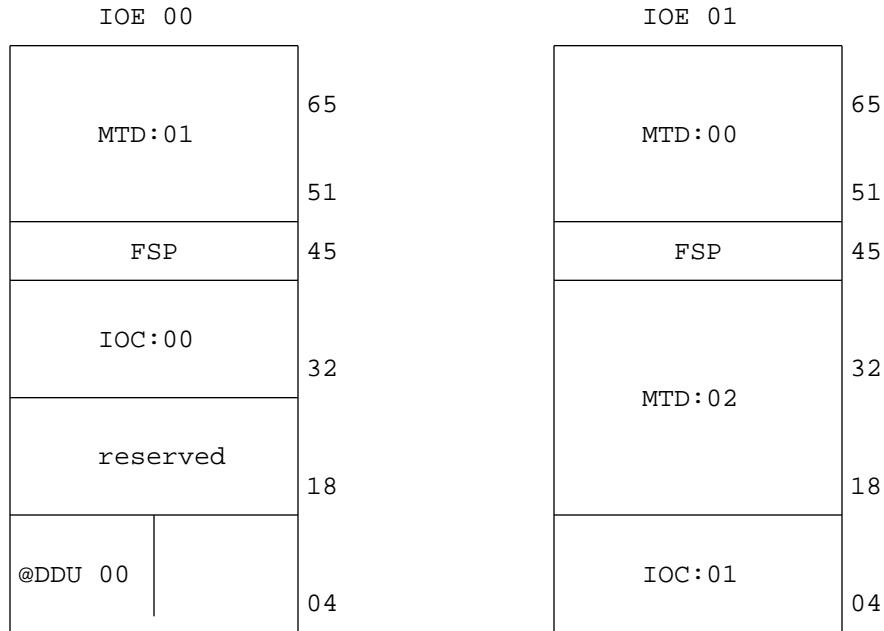

Figure 7. ONE (1) OR MORE MTDs AND ONLY ONE (1) DDU
- 2) Provide one dual shelf (Redundant) BMC for remote polling of Automatic Message Accounting (AMA) for one Customer Group. See Figure 7 for a typical frame layout.